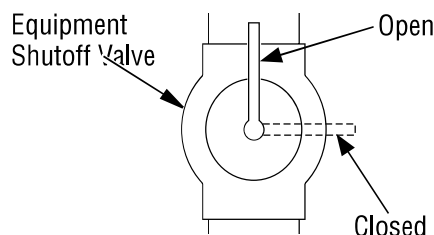

Figure 15 - Equipment Shutoff Valve
1. Close equipment shutoff valve (*see Figure 15*).